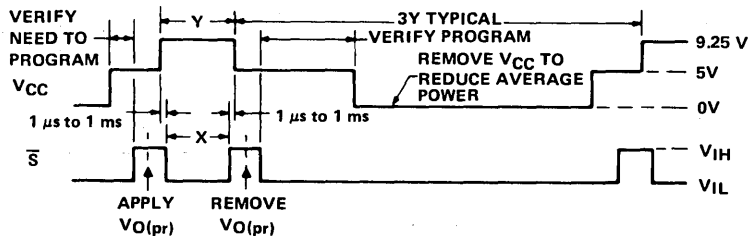

FIGURE 2 – VOLTAGE WAVEFORMS FOR PROGRAMMING
6. Apply a low-logic-level voltage to the chip-select input(s). This should occur between 1  $\mu\text{s}$  and 1 ms after  $V_{CC}$  has reached its 9.25 level. See programming sequence of Figure 2.